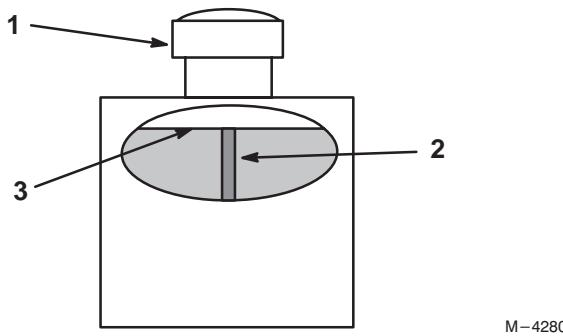

Figure 39
2. Clean area around filler neck of hydraulic tank (Fig. 39).
3. Remove cap from filler neck. Look inside to check if there is fluid in the reservoir. (Fig. 39).
**Note:** Fluid level should be to the top of the baffle when fluid is warm (Fig. 39).